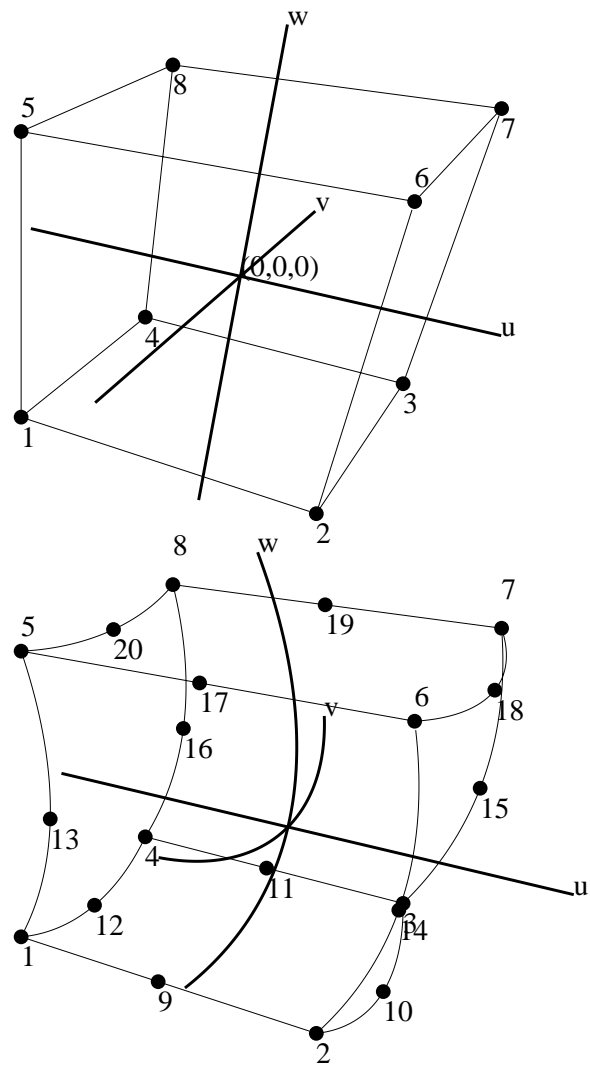

Figure I.4: The 8 (808) and 20 (820) node brick elements.
- trilinear (808) and quadratic (820,827) bricks (8, 20, and 27 nodal points, Figure I.4).